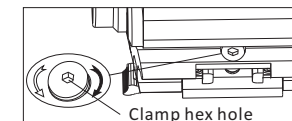

Fig4
- ① There is one hex hole at the end of clamp adjusting screw by the side of device. (See Fig4), before installation, Left rotating screw to loose the convex set with hex spanner, and than.
- ② Pull up the cam clamp hand shank. Slid the sight in rail, close the clamp hand shank.